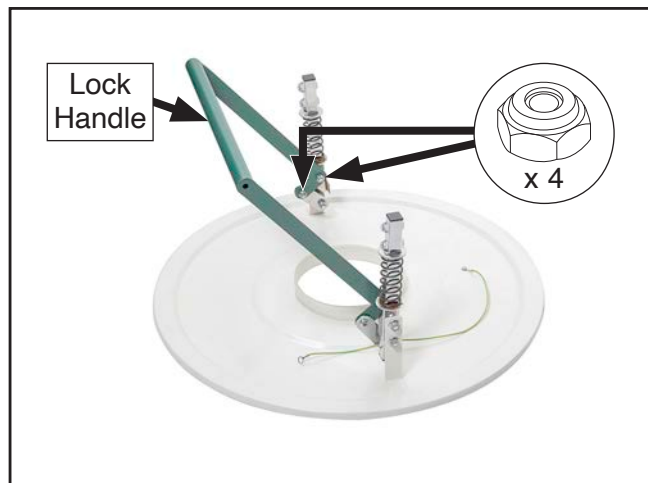

Figure 22. Lock handle attached to collection drum lid.
14. Install lock handle to collection drum lid assembly using (4) pre-installed lock nuts, as shown in **Figure 22**.